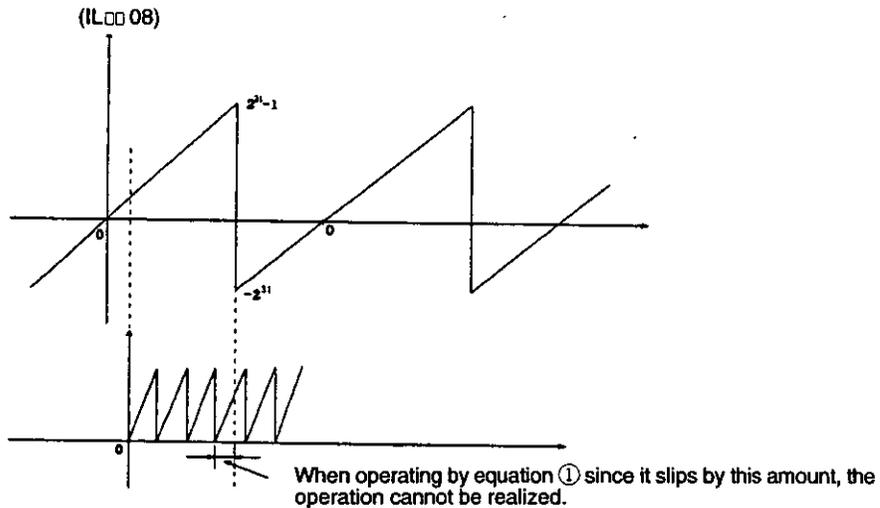

Fig. 3.65 Feedback Pulse
If the axis is rotating indefinitely in a single direction, to express the feedback pulse (current position) as a finite number, if the point where the feedback pulse sign is changed is passed, according to equation ① the operation is not realized. In the CP-9200SH since the feedback pulse (current position) is expressed in 32 bits, equation ① is no longer realized at the point of changing from $+2^{31}-1 \rightarrow -2^{31}$ (Refer to Fig. 3.65).